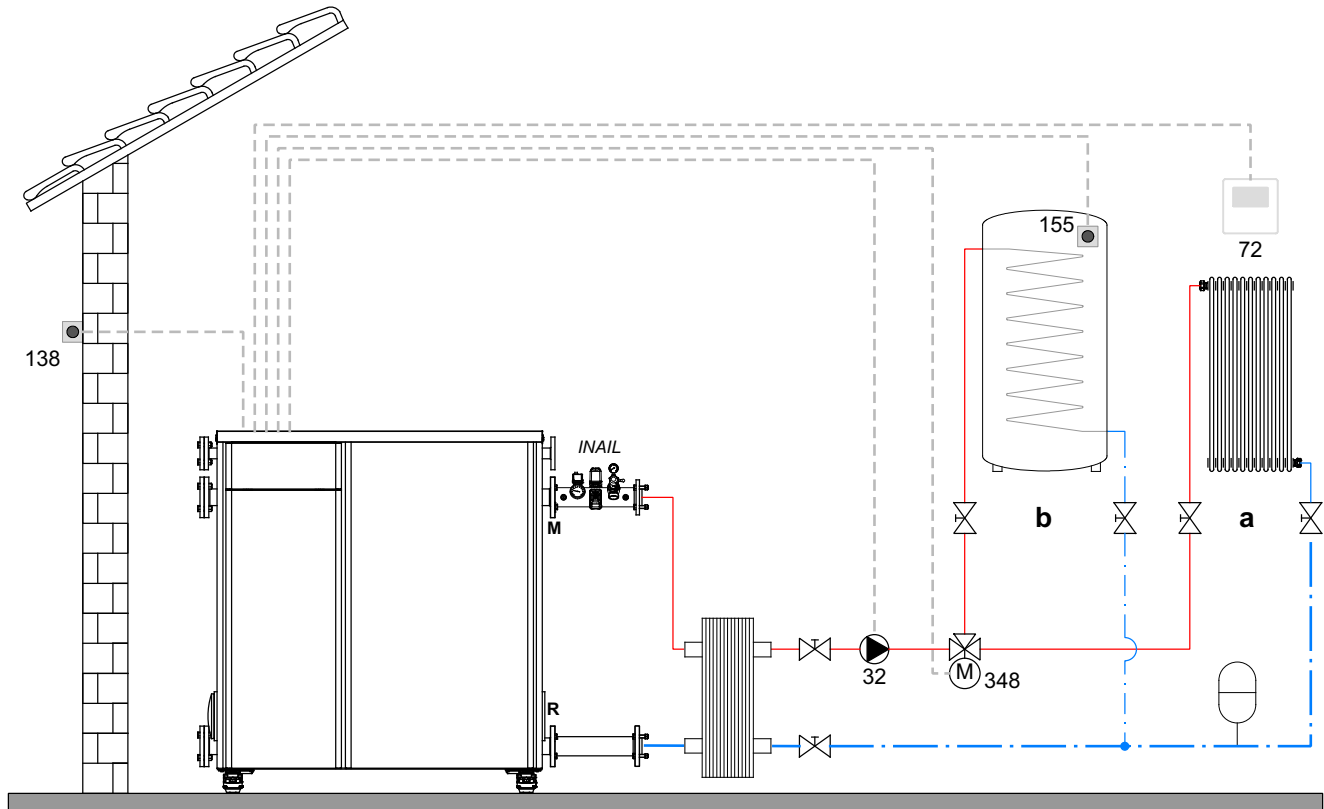
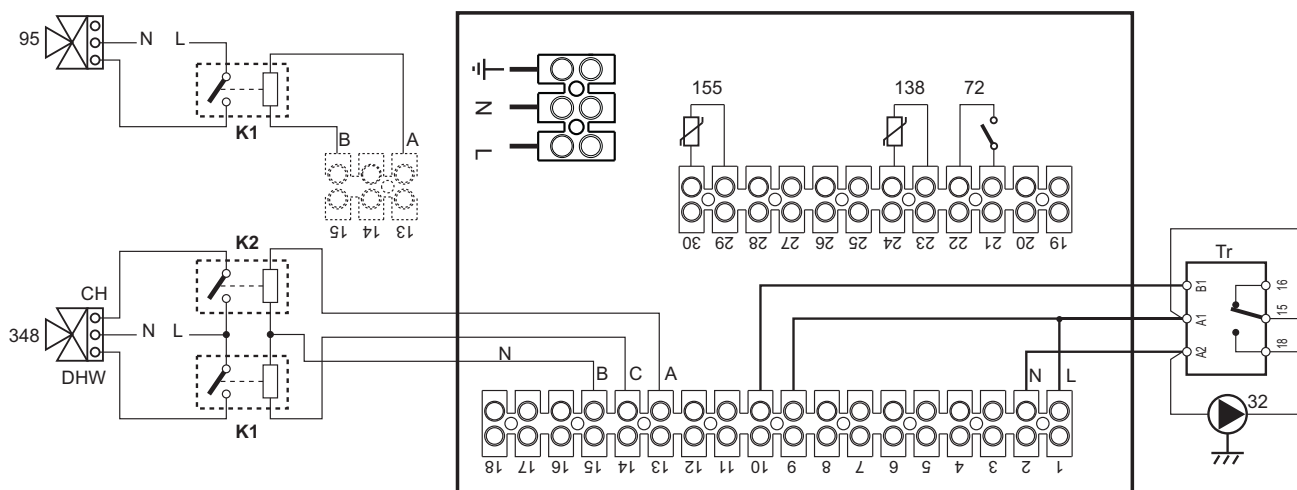

fig. 61
fig. 62
##### Legend (fig. 61 and fig. 62)
**To avoid damaging the board, it is advisable to use external relays to control the 3-way valve, as indicated in fig. 62.**